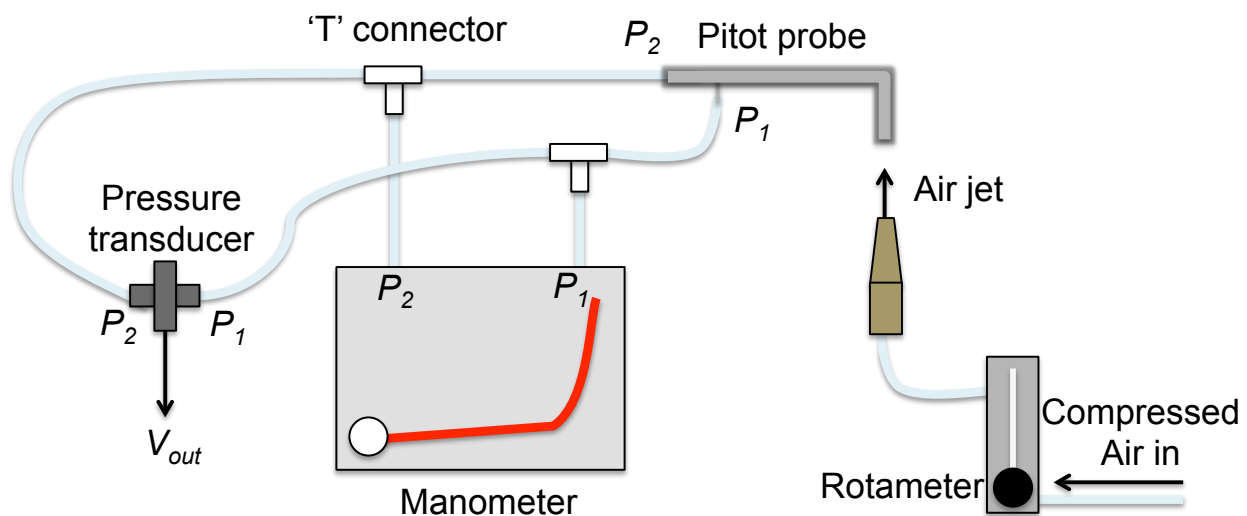

Figure 2 – A schematic of the experimental setup for calibrating the capacitive pressure transducer and measuring airspeed with the Pitot probe.
Shown in Figure 2 is a schematic of the overall experimental set-up. As you calibrate the pressure transducer, you will *simultaneously* measure the airspeed of a jet as a function of flow rate. Theoretically, the average velocity $\langle u \rangle$ is related to the flow rate Q by the equation
2. Sketch the experimental set-up shown in Fig. 2 in your lab notebook.
3. Construct the set-up shown in Fig. 2.